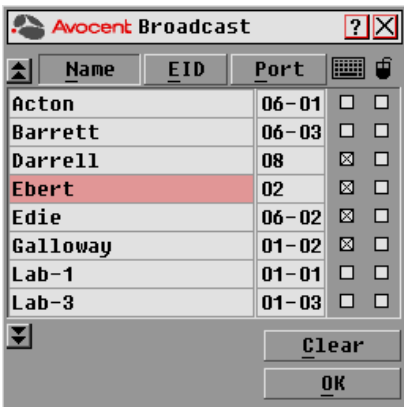

Figure 3.4: OSCAR Interface Broadcast Dialog Box
2. Click *Setup - Broadcast* to open the Broadcast dialog box shown in Figure 3.4.